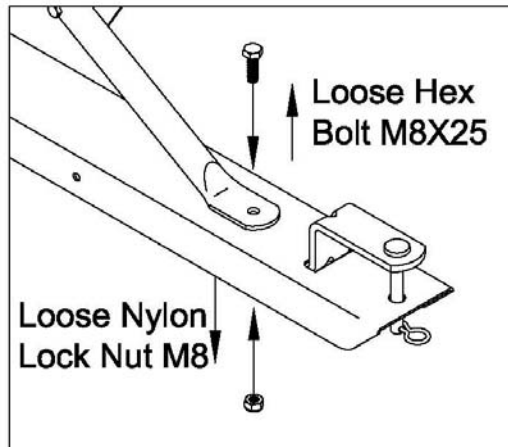

Figure 5
- Loose the Hex Bolt M8x25 and Nylon Lock Nut M8 from the Hitch Tongue. Fix the other end of the Flow Control Handle to the hole on Hitch Tongue, fix it by using the removed Hex Bolt M8x25 and Nylon Lock Nut M8. See Figure 5 & 6.